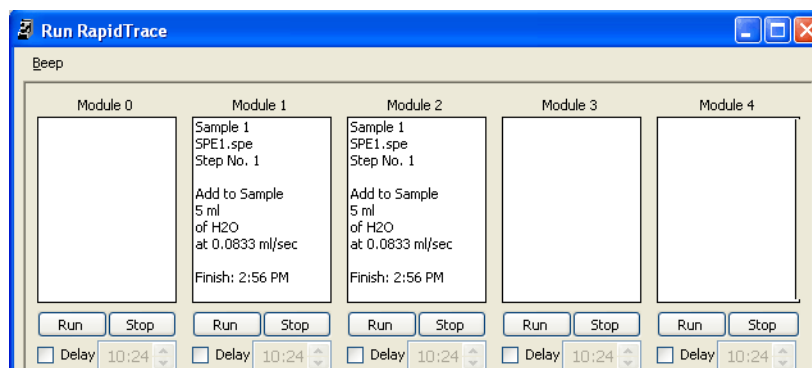

Figure 32. Two Modules Running SPE1.SPE Procedure
- 9 Click the **Run/Monitor** button. The **Run RapidTrace** window opens; see the example in Figure 32.